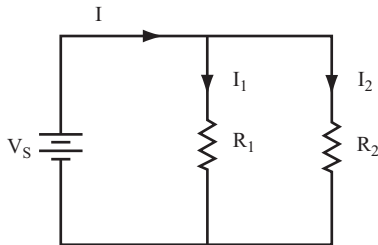

FIGURE 1.21
- Questions 6–8 use the circuit shown in Figure 1.21. Again, find the unknowns using the given values.